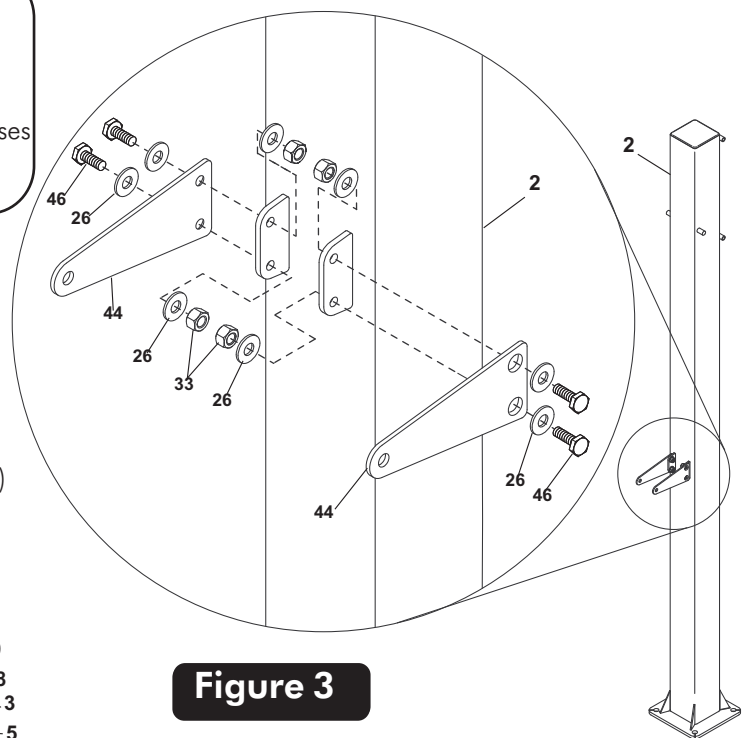

Figure 3
1. Attach Post Brackets (#44) to outside of brackets on back of Post Assembly (#2). Secure with two Hex Head Bolts (#46), four Wide Flat Head Washers (#26) and two Locknuts (#33) in each Bracket (#44). See Figure 3.